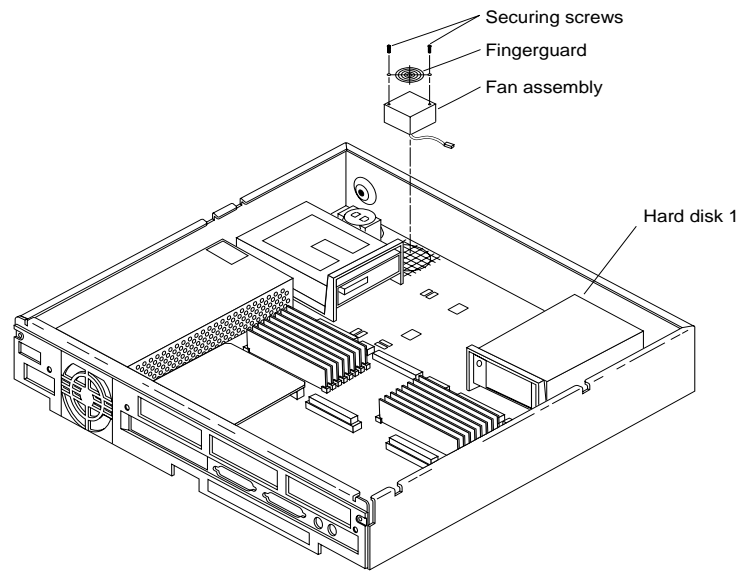

Figure 4-18 Removing and Replacing the Fan Assembly
Each SPARCstation 2 contains two fan assemblies. One of them is built into the power supply. Although the power supply is a field replaceable-unit, the fan assembly resides in the power supply itself is not a field replaceable-unit. See "Power Supply" earlier in this Chapter. The other fan assembly is located at the front right side of the chassis, next to the diskette drive and the system speaker (see Figure 4-18). This fan assembly is a field replaceable unit.
6. **Remove both screws from the fan assembly (Figure 4-18).**
7. **Remove the fingerguard (Figure 4-18).**
The locator on the chassis makes sure that the fan is oriented the correct way (Figure 4-18).
- 4. Install both screws through the fingerguard, fan assembly and the chassis (Figure 4-18).**